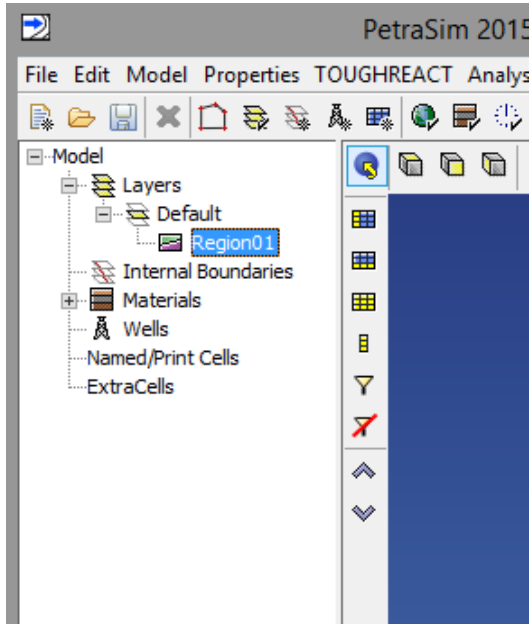

Figure 4: Selecting a region in the Tree View
1. In the **Tree View** at the left, under **Layers**, under the **Default** layer, click to select the **Default** region as shown in Figure 4.